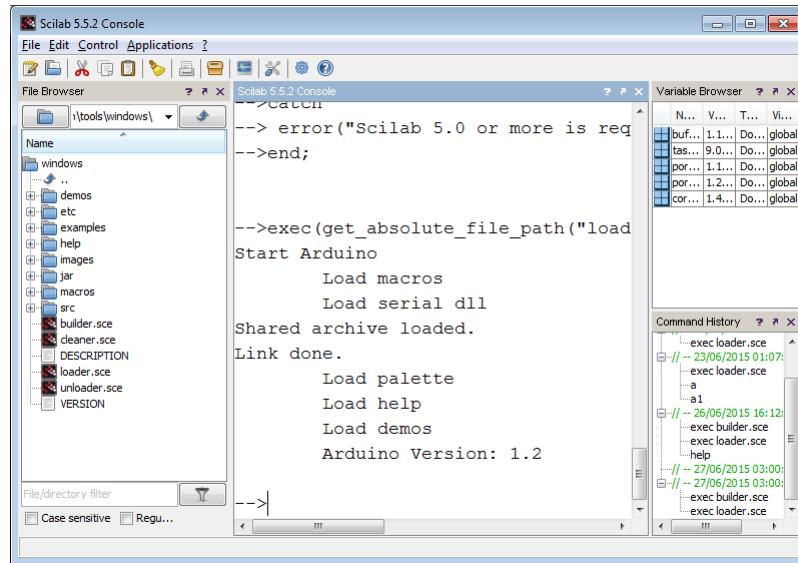

Figure 3.9: Output of loader.sce
6. Next, type the command, `exec loader.sce` - this will load the toolbox. This means all the new functions corresponding to the toolbox are loaded in the workspace. It will also make available new Xcos blocks, if any. The output of this command is as shown in Fig. 3.9. If you clear the workspace for any reason, you will have to execute this command once again³.